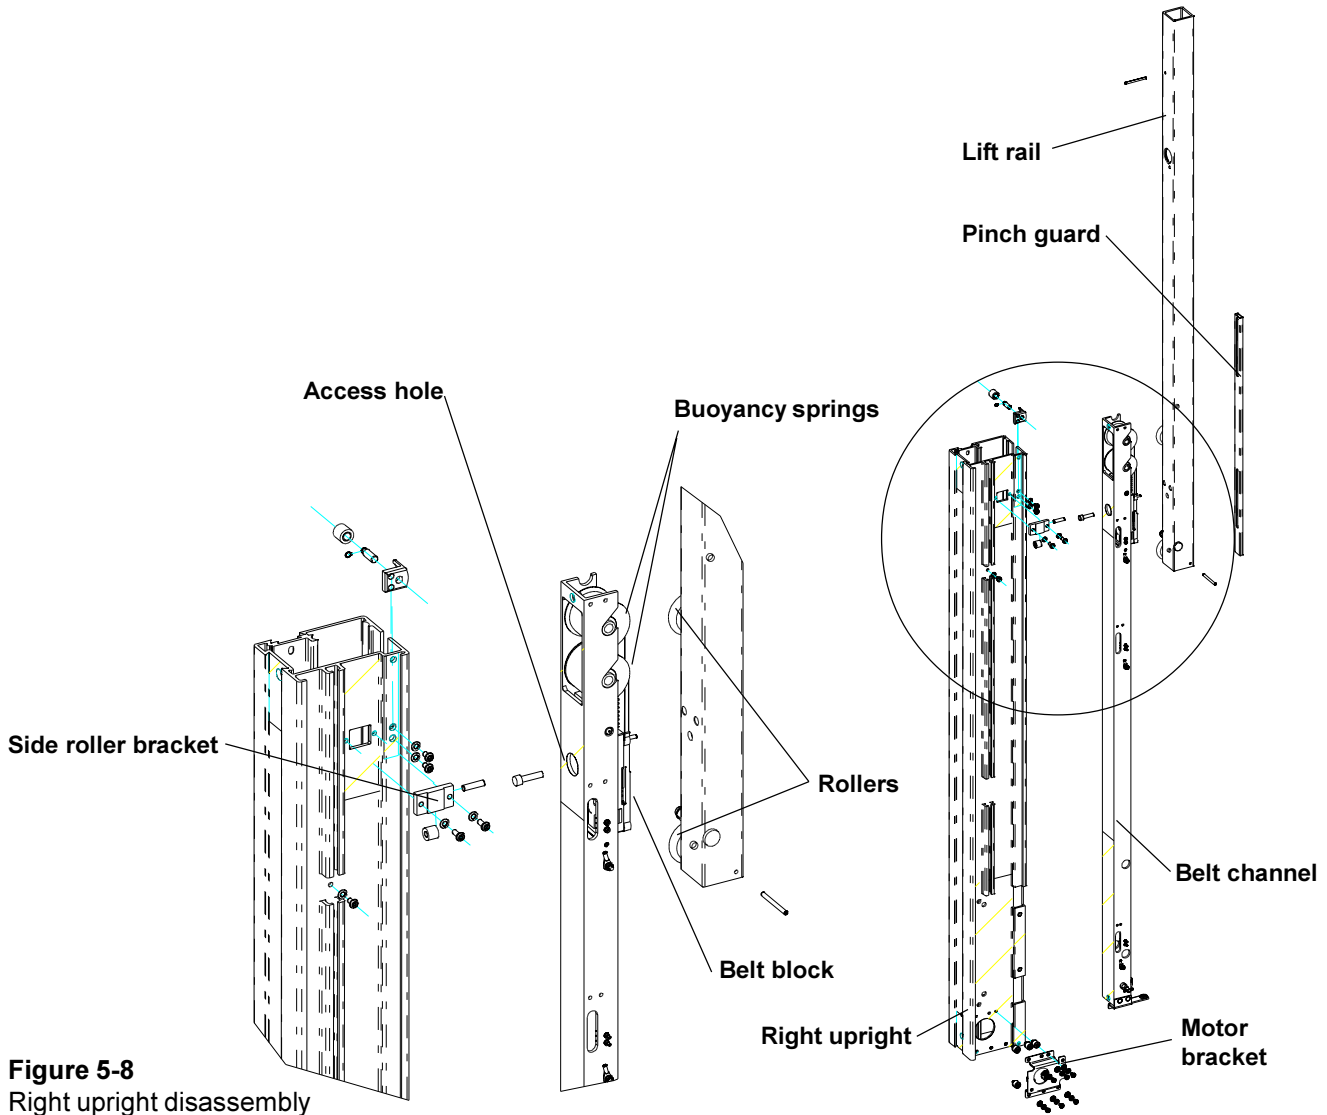

Figure 5-8
5.234 Separating the lift rail from the belt channel (Figure 5-8)